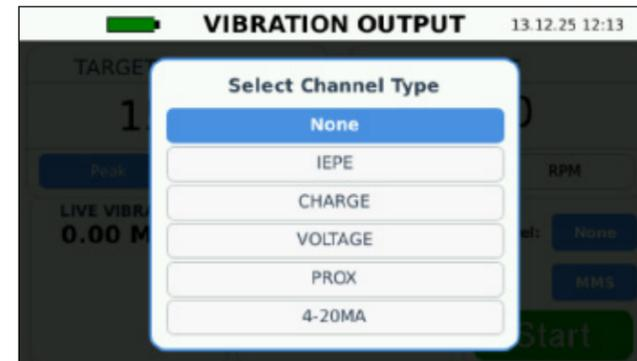

Figure 10
3. Select the **Channel** button to choose the input channel (Figure 10):